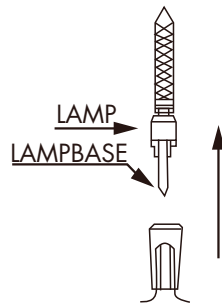

FIG.1
Step 2: Turn the reflector counter-clockwise out of the lampholder. Pull lamp and plastic base out. SEE FIG.1